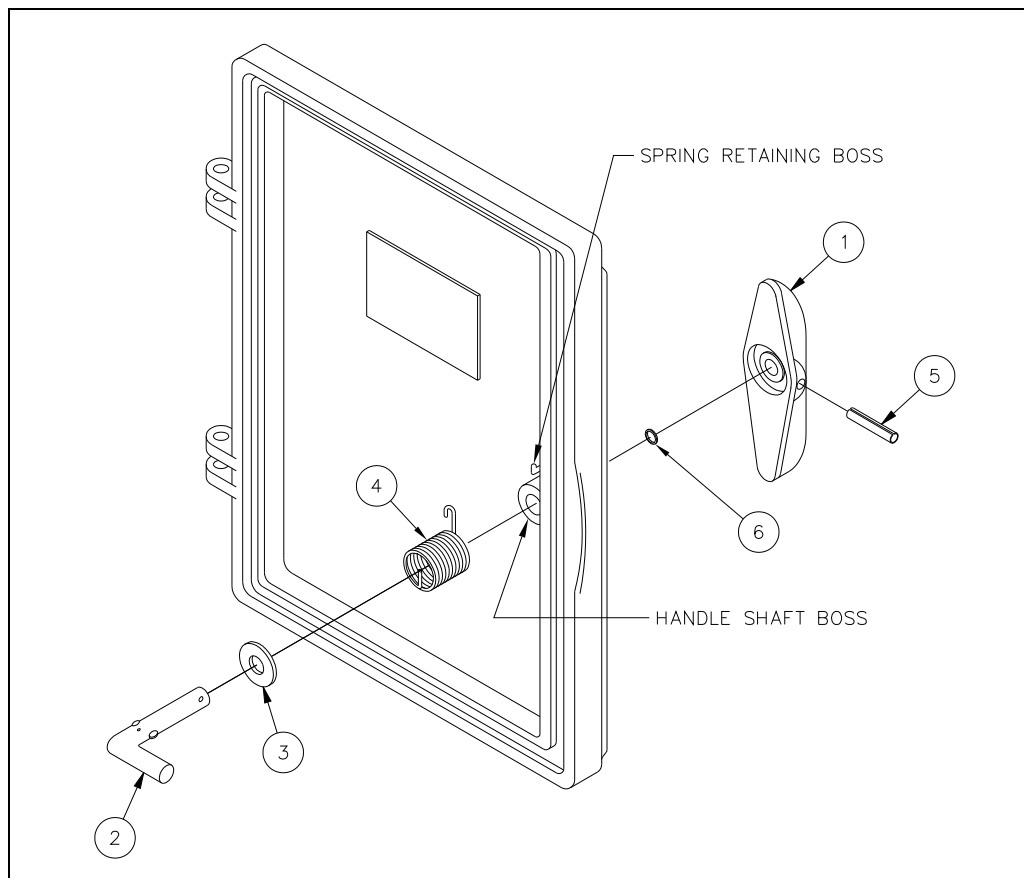
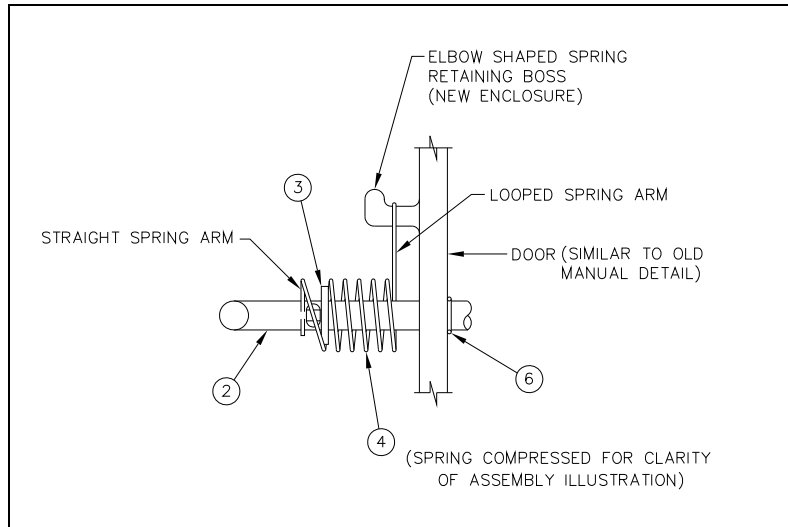

Figure 1.
Figure 2.
2. Install the handle shaft through the flat washer and into the handle shaft boss as shown in Figure 1. Make sure the flat washer is between the top of the handle shaft boss and the straight arm of the spring as shown in Figure 2.
4. Position the handle of the shaft on the front of the door with the longer rib of the handle towards the bottom of the door. Orient the shaft so that the latching leg of the shaft on the inside of the door is positioned horizontally and pointing toward latch side of the door as shown in Figure 1. Align the holes in the handle and the shaft. Install the roll pin through the handle and into the shaft hole so that the amount of roll pin on each side of the shaft is approximately the same and does not protrude outside the handle.